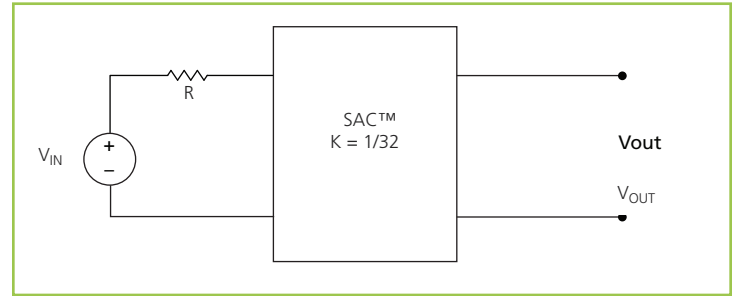

Figure 15 — K = 1/32 Sine Amplitude Converter™ with series input resistor
interesting attributes. Assuming that R_{OUT} = 0 Ω and I_Q = 0 A, Eq. (3) now becomes Eq. (1) and is essentially load independent, resistor R is now placed in series with V_{IN} as shown in Figure 15.
Assuming that $R = 1 \Omega$, the effective R as seen from the secondary side is 0.98 m Ω , with $K = 1/32$ as shown in Figure 15.